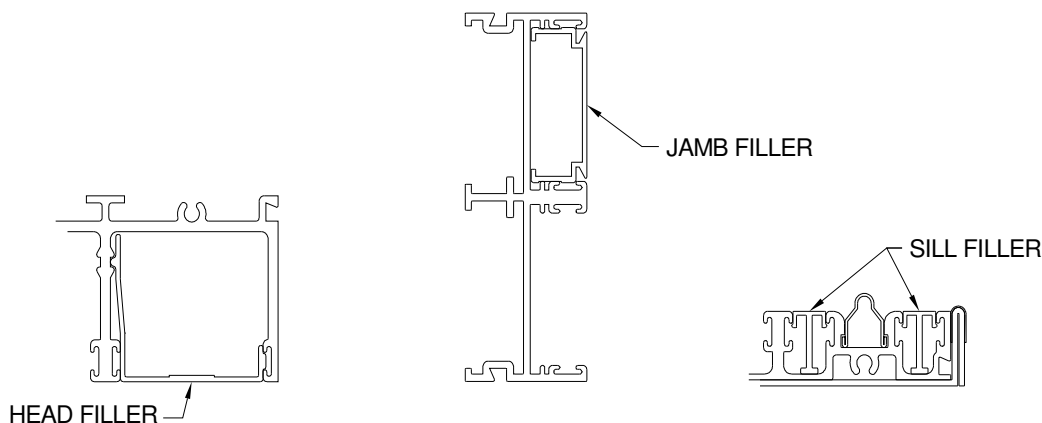

Figure 33:
6. When applicable, use a soft mallet to install Head, Jamb, and Sill Fillers into all tracks where they do not interfere with the operation of the system (Figure 33).